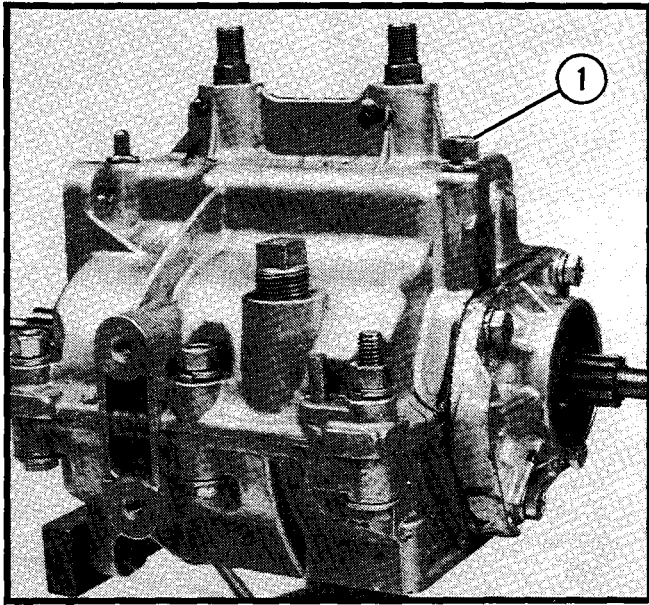

Figure 14.
7. Place a 1/8" (3mm) bead of Loctite 515 sealer on one half of the transmission. After the sealer has been applied assemble the two transmission halves. See Figure 14.